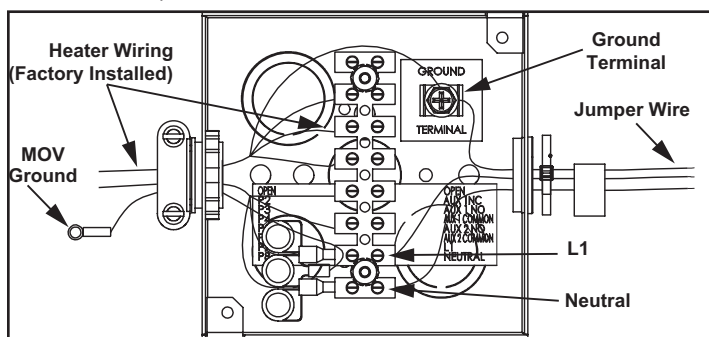

Figure 53. Power Supply Connections
The 120 VAC hot wire from the power supply must connect to the black jumper wire or the “L1” terminal block location in the junction box and the 120 VAC neutral wire must connect to the white jumper wire or the “Neutral” terminal block location in the junction box for correct polarity. See **Figure 53**.
3. Connect the 120 VAC hot wire from the power supply to the black jumper wire or the terminal block location marked “L1” inside of the junction box located on top of the water heater. If the black jumper wire is used, make the connection inside of the junction box with a properly sized wire nut and wrap electrical tape around the wire nut and wire end. See junction box **Figure 53** and wiring diagram **Figure 65** (page 76).
4. Connect the 120VAC neutral wire from the power supply to the white jumper wire or the terminal block location marked “Neutral” inside of the junction box located on top of the water heater. If the white jumper wire is used, make the connection inside of the junction box with a properly sized wire nut and wrap electrical tape around the wire nut and wire end. See junction box **Figure 53** and wiring diagram **Figure 65** (page 76).
5. Connect the ground wire from the power supply to the green jumper wire or the ground terminal location inside of the junction box located on top of the water heater. If the green jumper wire is used, make the connection inside of the junction box with a properly sized wire nut and wrap electrical tape around the wire nut and wire end. See junction box *Figure 53* and wiring diagram *Figure 65* (page 76).